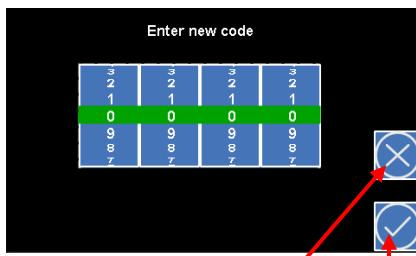

Figure 23
- If the code is correct, the **Enter new code** menu appears (see Figure 23).
5. Confirm the entry with the **Apply** icon (2).